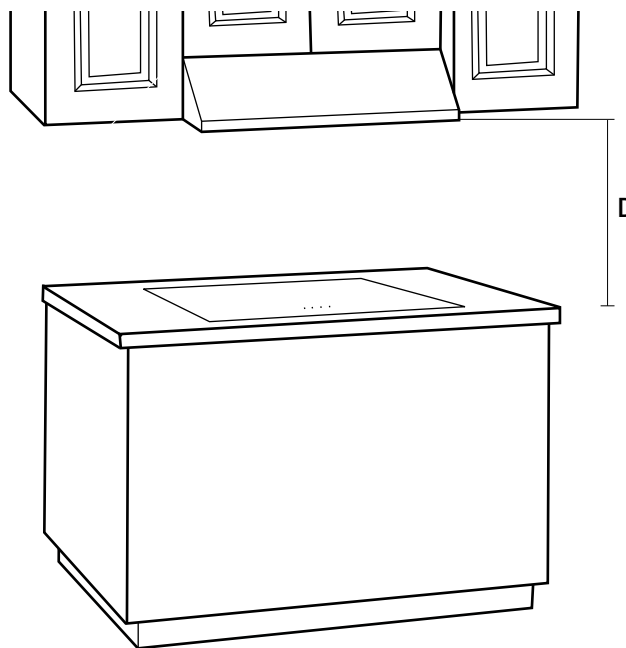

Fig. 1
4. If you choose to hang the range hood as below (Fig. 1) distance (D) from the cooktop surface, use extra caution as the surface of range hood may be extremely hot to the touch. For this unit, (D in Fig. 1) is 458 mm - 710 mm (18 in. - 28 in.). If you choose an 18 in. installation, the temperature of the unit surface will be high if the unit is operated under high power cooking for a certain amount of time.